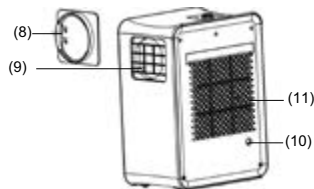

Fig. 4.
2. FULL – Condensate fill-up tank indicator. If this indicator is on then the condensate collection tank is full. It is necessary to switch off the unit and drain the condensate by unscrewing the plug on pipe 11 (Fig. 4), then the unit can be switched on again.